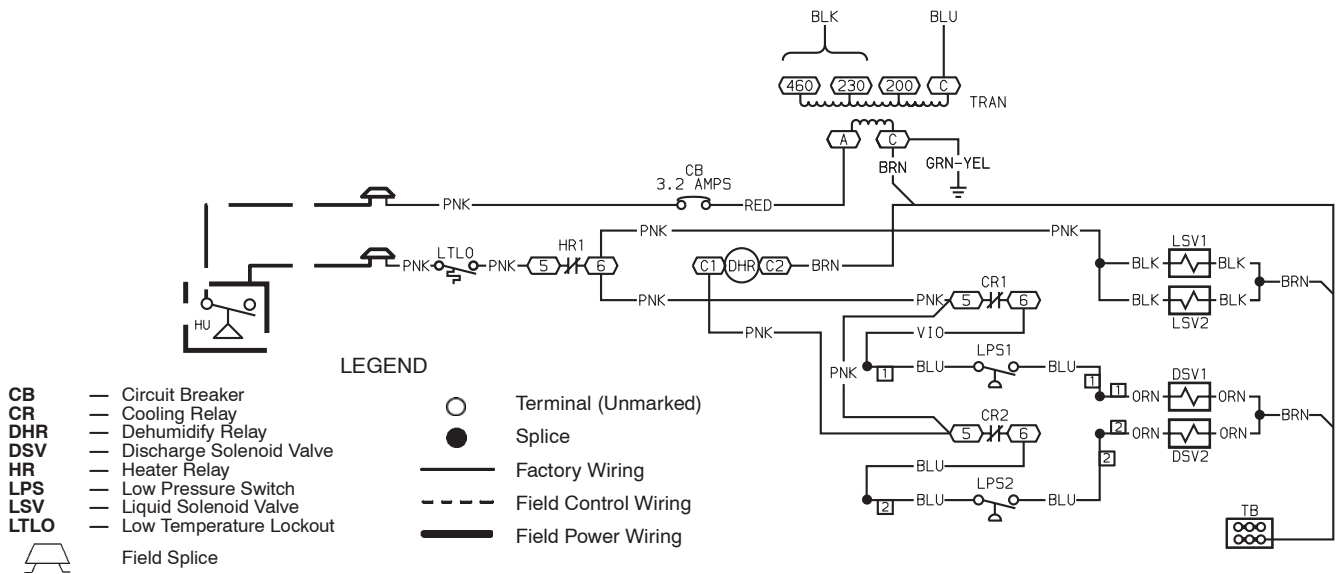

Fig. 16 – Typical Humidi-MiZer™ Adaptive Dehumidification System Humidistat Wiring (208/230-V Unit Shown)
3. Use a wire nut to connect humidistat cable into low-voltage wiring as shown in Fig. 16.